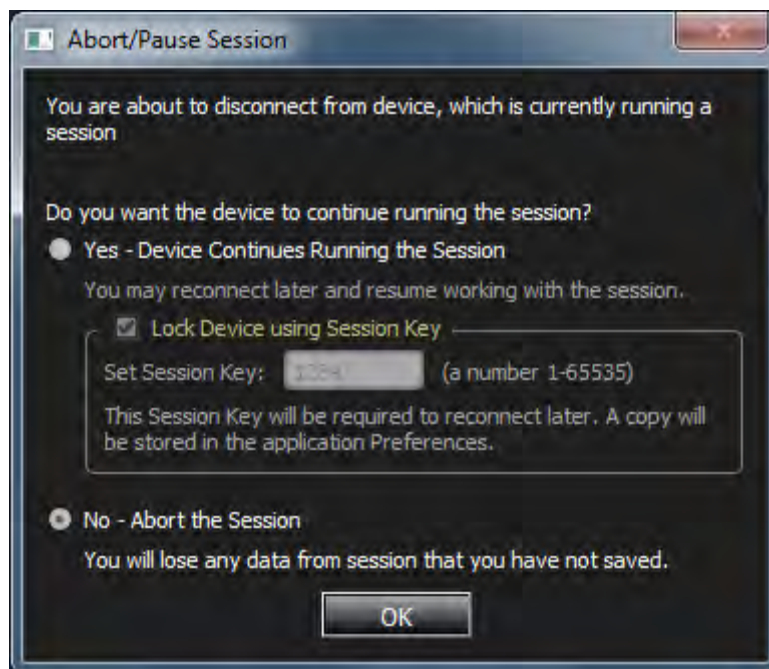

Figure 3.45: Abort the Recording Session
- Exit the Application, Abort the Recording of Data Traffic entirely, and lose any Data Traffic that has not already been saved (Figure 3.45).